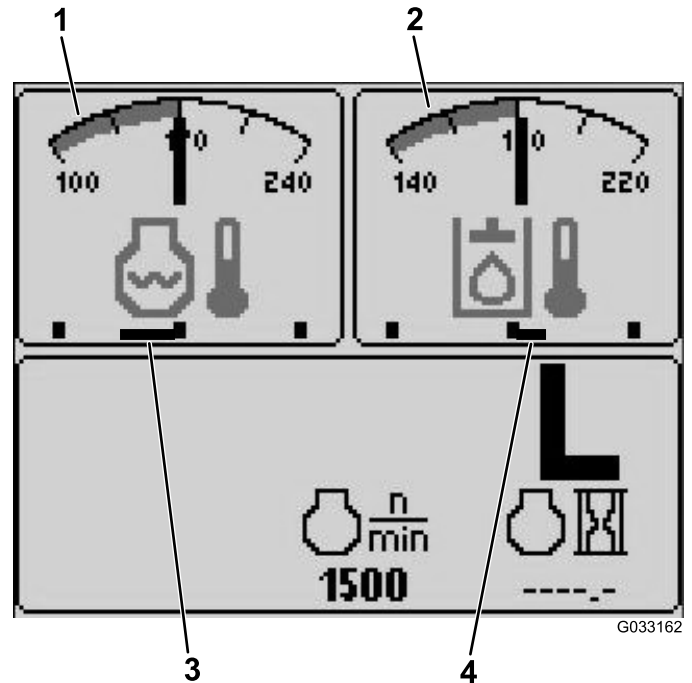

Figure 5
- Hydraulic-fluid-temperature and fan indicator—top, right screen (Figure 5)
- Engine-coolant-temperature and fan indicator—top, left screen (Figure 5)
**Note:** In example Figure 5, the engine-coolant fans are running at 50% speed in the reverse direction.
Fan direction is also indicated on the engine-coolant-temperature screen and the hydraulic-fluid-temperature screen. If the bar is to the right of the midpoint hash mark, the fans are running in the forward direction. If the bar is to the left of the midpoint hash mark, the fans are running in the reverse direction (Figure 5).
This display indicates the hydraulic-fluid temperature and the status of the cooling fan (Figure 5).
This display indicates the engine-coolant temperature and the status of the cooling fan (Figure 5).